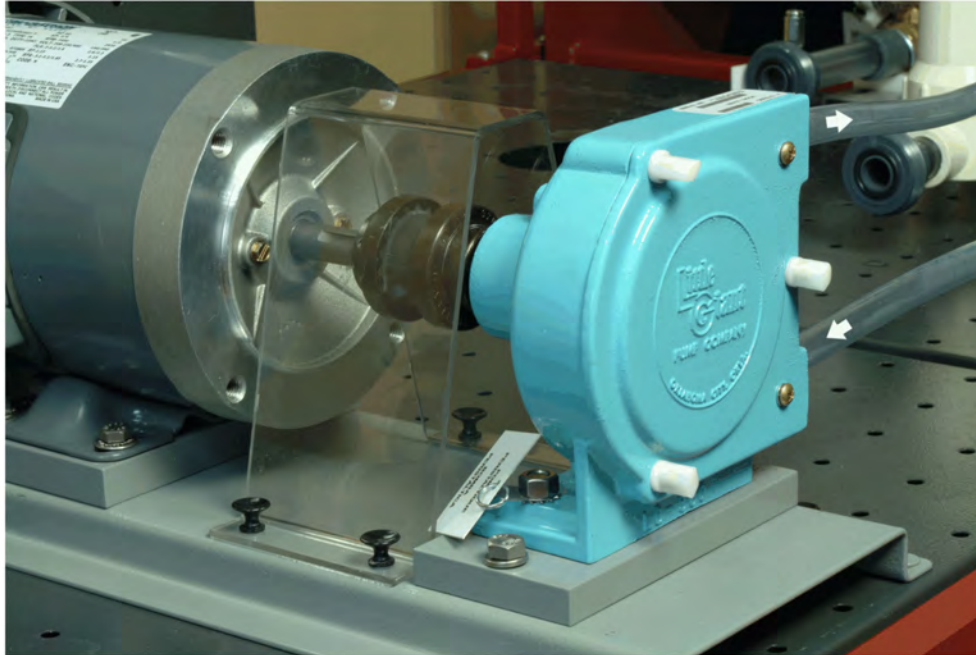

Figure 1-4. Installation of the Peristaltic Pump on the Pump Universal Base.
- 6. Install the Peristaltic Pump on the Pump Universal Base as shown in Figure 1-4.